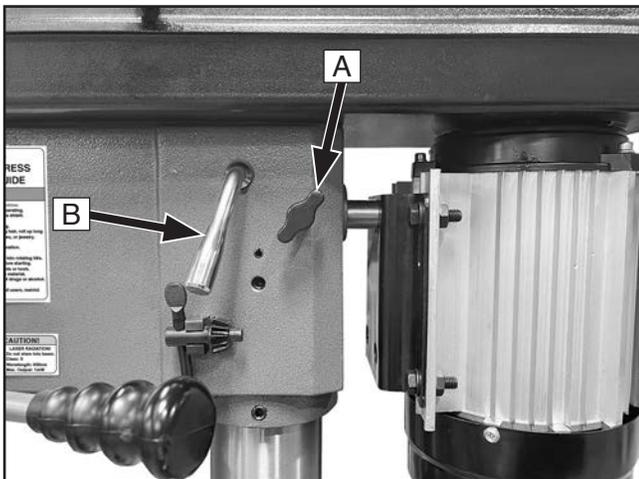

Figure 23. V-belt tension components.
3. Release V-belt tension by loosening two knobs (see **A** in **Figure 23**) and moving tension lever toward the front of the machine (see **B** in **Figure 23**).
5. Move tension lever (see **B** in **Figure 23**) toward rear of machine until belt deflects approximately 10mm when pressed with thumb midway between two pulleys.
6. Tighten knobs (see **A** in **Figure 23**).